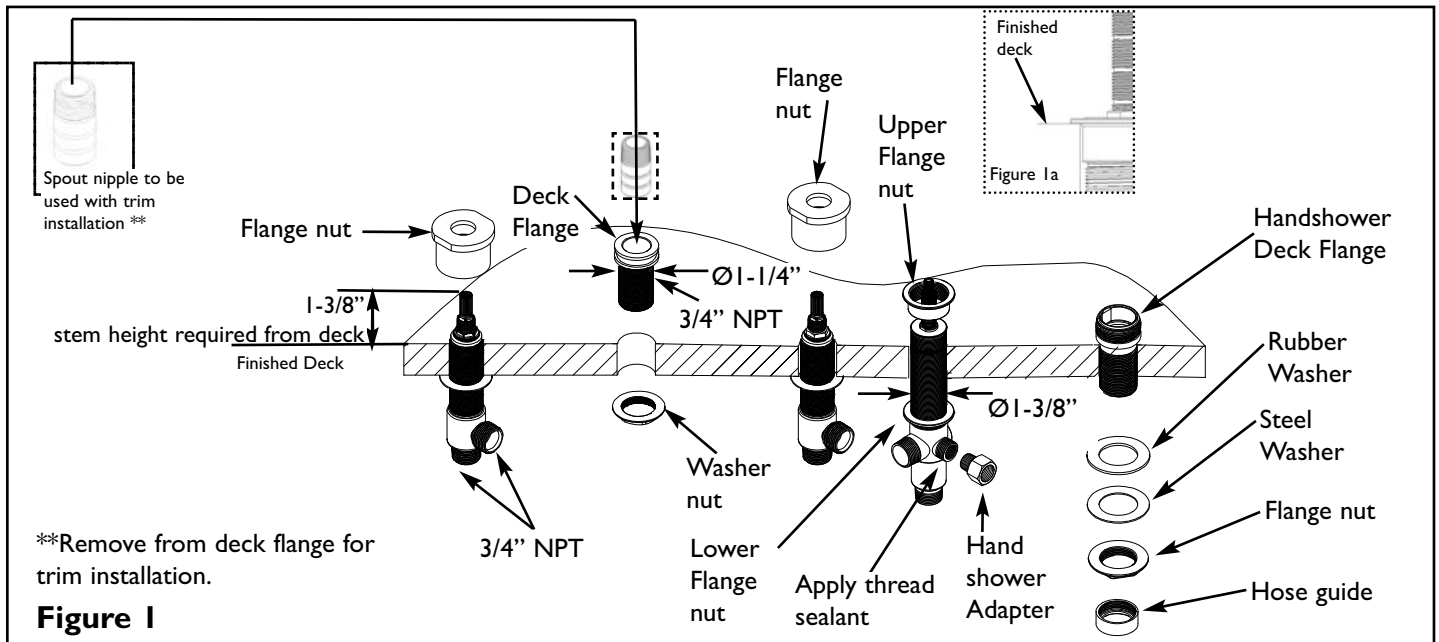

Figure 1
1. Install the Spout quick connect Deck Flange through spacer and appropriate hole of mounting surface. Secure with washer nut. See Figure 1. Note: Spout Nipple is installed in the Deck Flange for safe keeping until the trim is to be installed.
7. Cut diverter stem to height shown in Figure 1. Cut all thread 1/2" shorter than stem